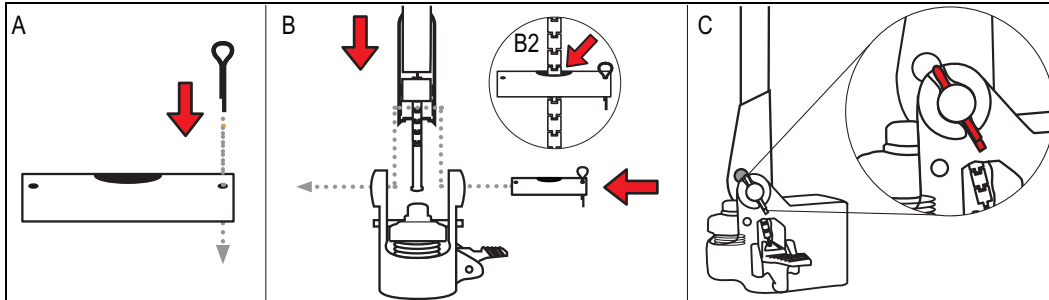

Figure 3. Handlebar Attachment
1. Insert a cotter key pin into the hole on one end of the pivot pin (Figure 3-A).
2. Lower the base of the handlebar into the steering column of the fork assembly (Figure 3-B).
3. Slide pivot pin through mounting holes of the steering column and mounting holes of the handlebar (Figure 3-B). Pivot pin must be inserted so the cotter key slides into the groove of the steering column mounting hole (Figure 3-C).
4. Direct the handlebar chain into the handlebar and through the center hole in the pivot pin (Figure 3-B2).